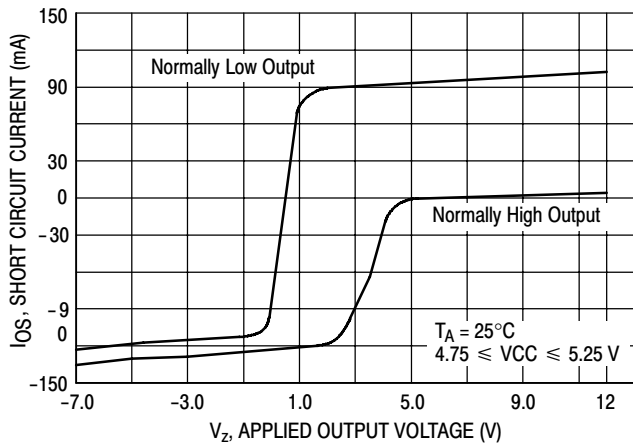

Figure 16. Short Circuit Current versus Common Mode Voltage
The two outputs of a driver are always complementary. A “high” output can only source current out, while a “low” output can only sink current (except for short circuit current – see Figure 16).
- a) Current limiting is provided at each output, in both the source and sink direction, for shorts to any voltage within the range of 12V to -7.0V, with respect to circuit ground (see Figure 16). The short circuit current will flow until the fault is removed, or until the thermal shutdown circuit activates (see below). The current limiting circuit has a negative temperature coefficient and requires no resetting upon removal of the fault condition.